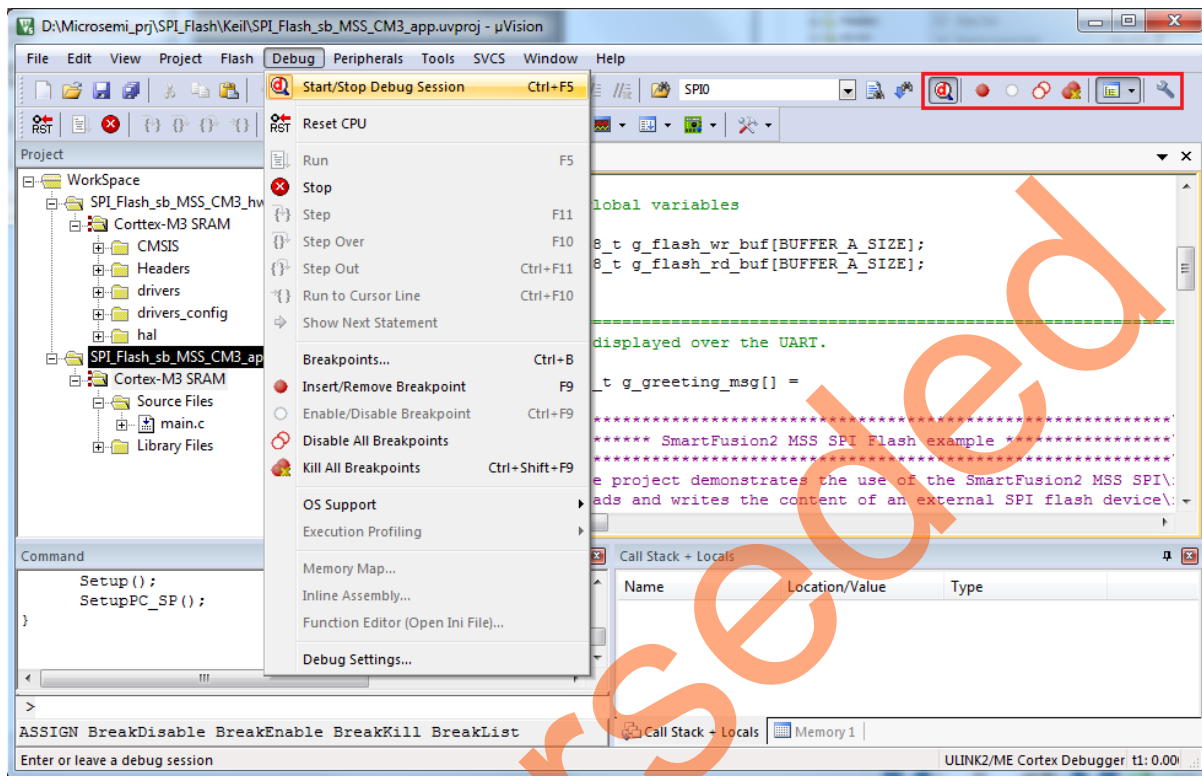

Figure 44 • Keil uVision Workbench - Stop Debug Option
7. When debug process is finished, terminate execution of the code by choosing **Debug > Start/Stop Debug Session** as shown in Figure 44.